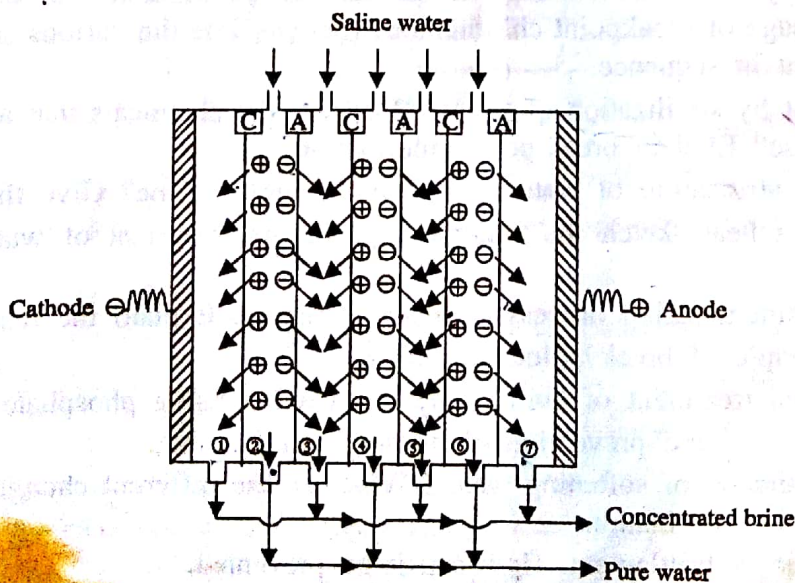

Fig. 12.7 Electrodialysis
Description: An electrodialysis cell consists of alternate cation (C) and anion (A) selective membrane. An ion selective membrane has permeability for only one kind of ions with specific charge. Therefore cation selective membrane is permeable to cations only but not to anions while anion selective membrane is permeable to anions only but not to cations. The cathode is placed near the cation selective membrane and the anode is placed near the anion selective membrane. (Fig. 12.7)